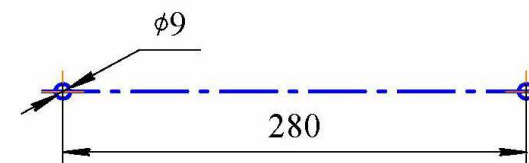

Figure 2
6.4 Fasten GGFE through bracket **16** on a ceiling, wall or other bearing surface located at any angle to floor surface. Positions of holes in the bracket intended to fasten GGFE are given in Figure 2. Remove self-adhesive film **17** from bottom part of case **1**.